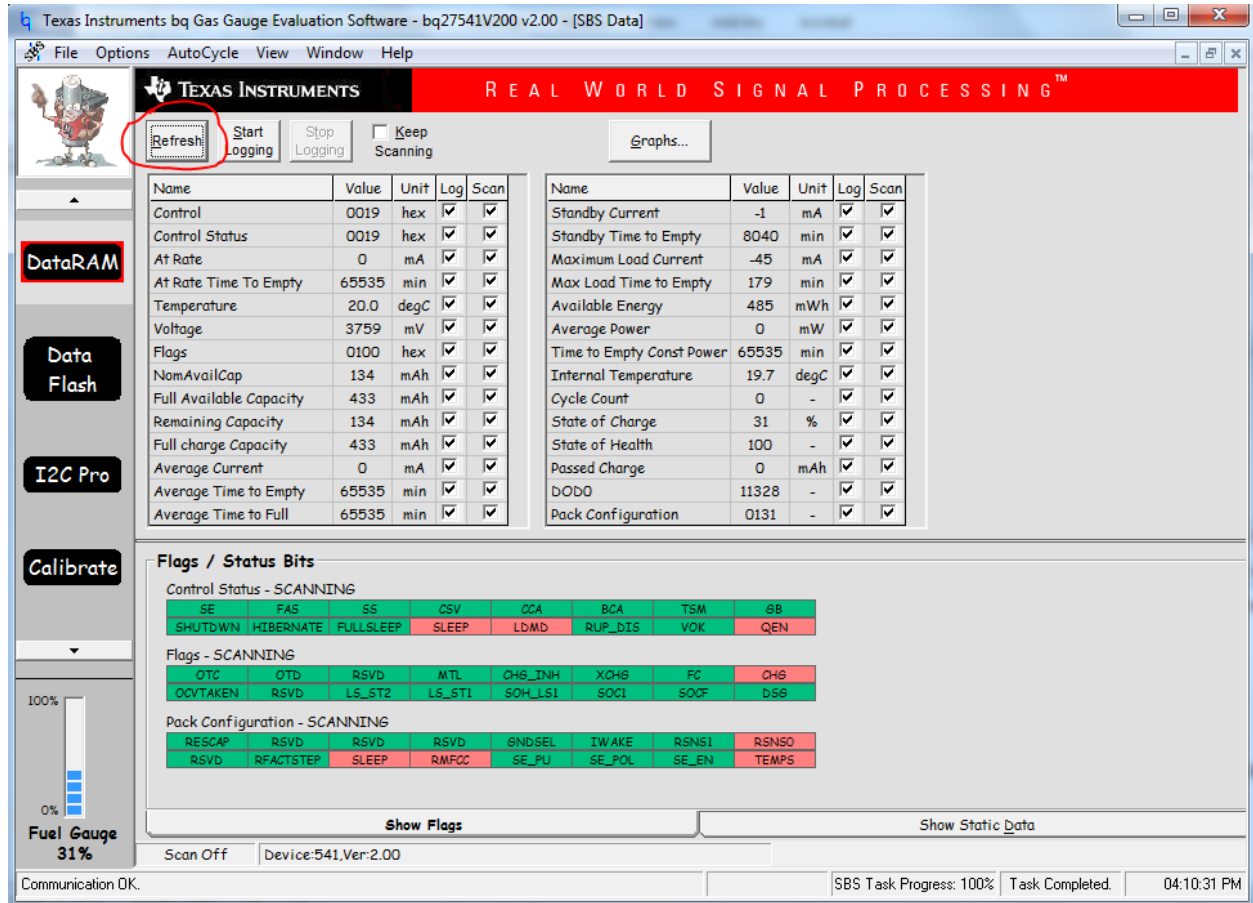

Figure 10: Refresh in bq Evaluation Software
12. Click the Refresh button as shown in Figure 10.